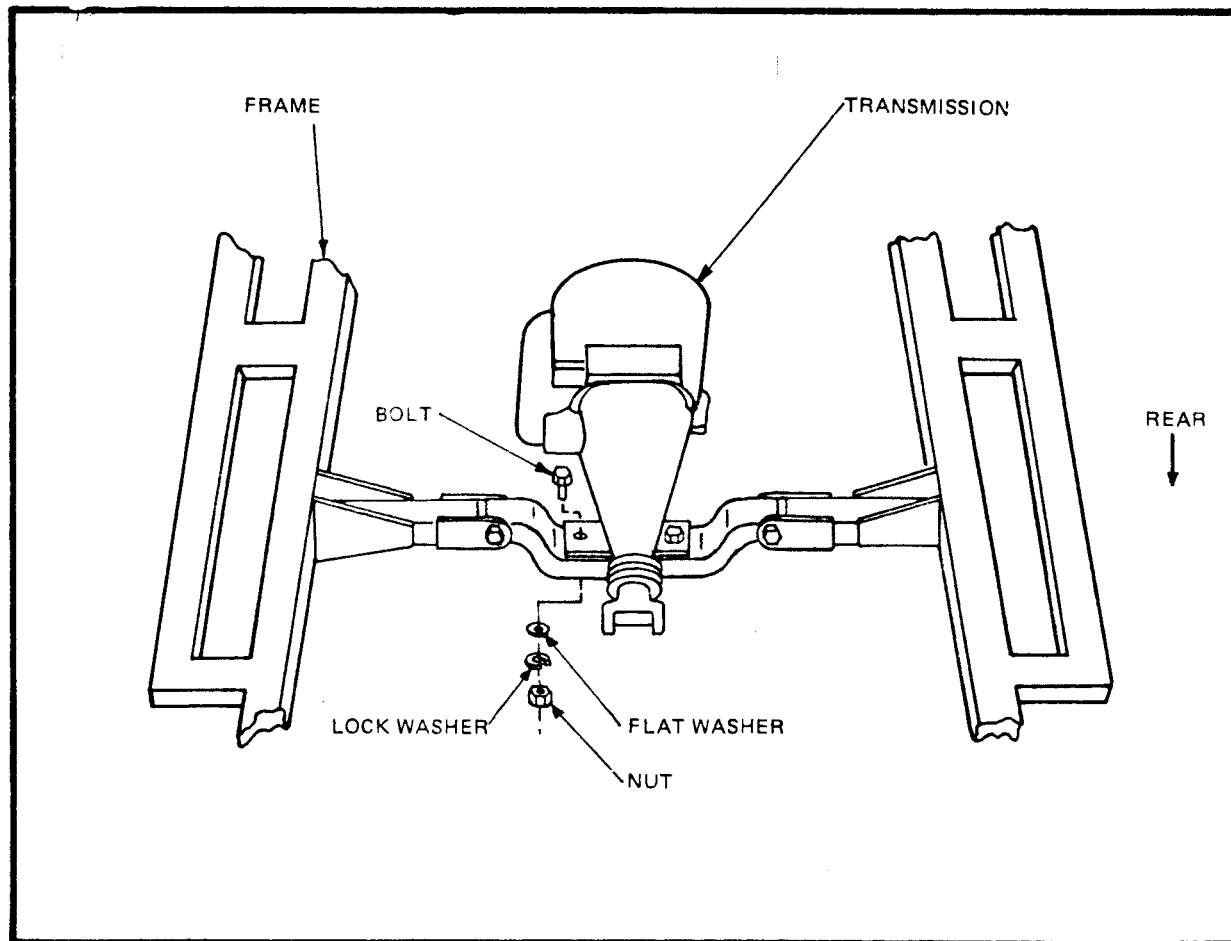

Figure 14
- Install transmission bracket in frame and secure with original Ford nuts and bolts. Make certain that the longer side of the bracket projects toward the rear of the car, as in the Ford. (Figure 14)